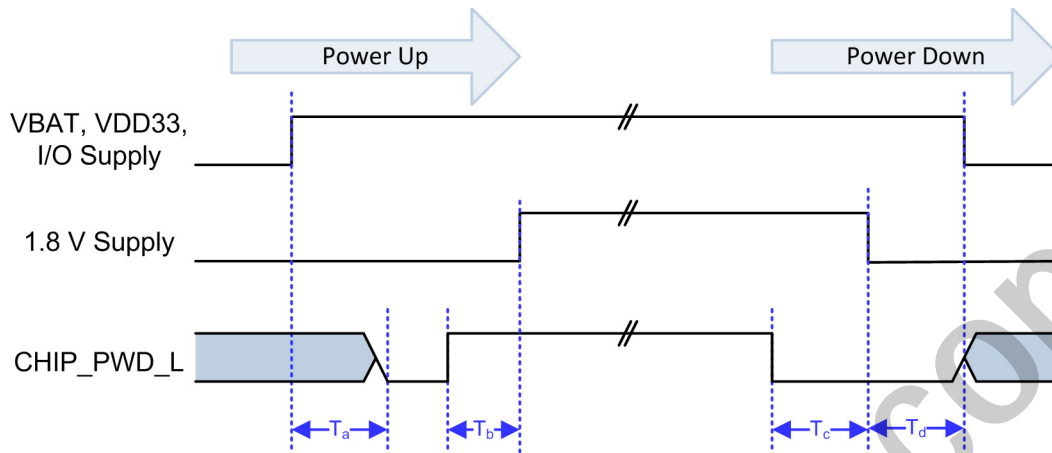
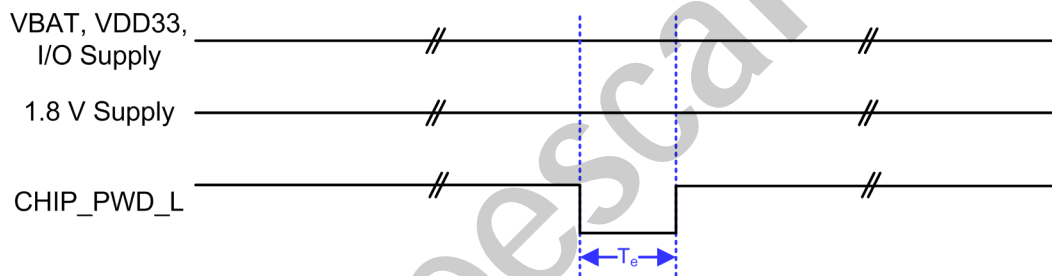

Figure 4-1 Power Up/Power Down Timing
Figure 4-2 Reset and Power Cycle Timing
Figure 4-1 and Figure 4-2 show the recommended power up/down and reset sequences for the AR4100(P) using external 3.3 V and 1.8 V supplies.